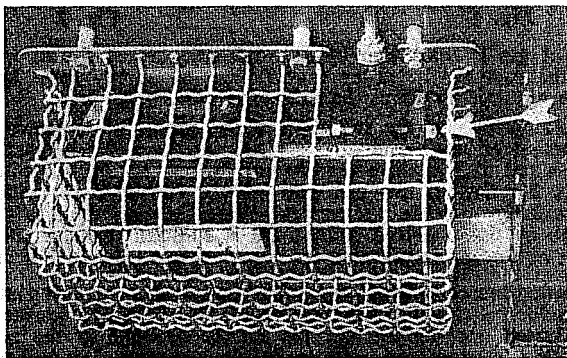

Fig. 3
- (a) Lighting instructions for the radiant heater. Turn the isolating cock to the "ON" position. Depress the reset (RED) button and hold a lighted match to the burner face until the gas ignites. The red reset button is shown in Fig. 3. Hold the reset button in for approximately one minute, then release. The heater should continue to burn, but should the flame extinguish, repeat the operation until the heater continues to burn. It is to be noted that this heater is fitted with a flame failure device which will automatically shut off